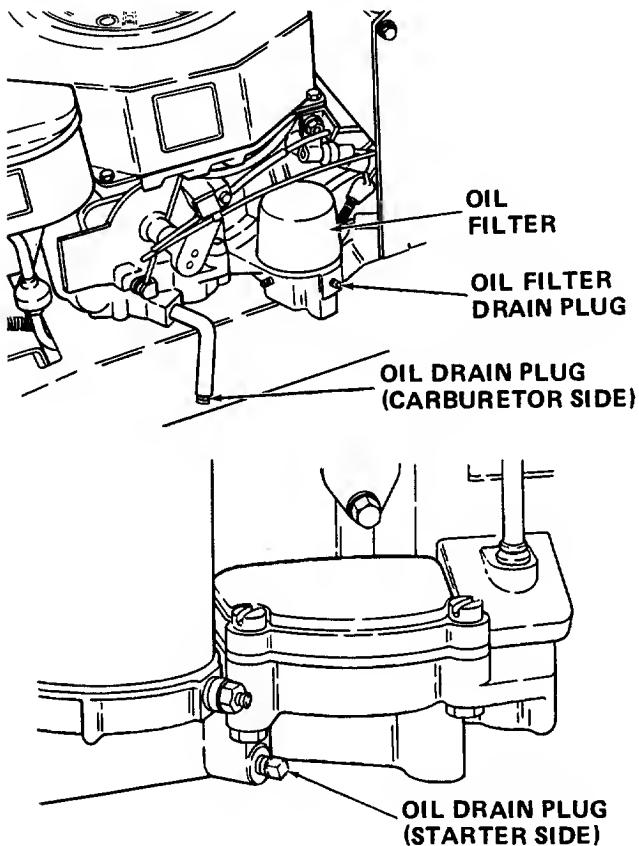

Figure 26. Oil Drain Plugs, Oil Filter, and Oil Filter Drain Plug
1. Place the tractor on a level surface, and engage brake pedal lock. Remove the drain plug and collect the old oil in an adequate container. (Refer to Figure 26.)